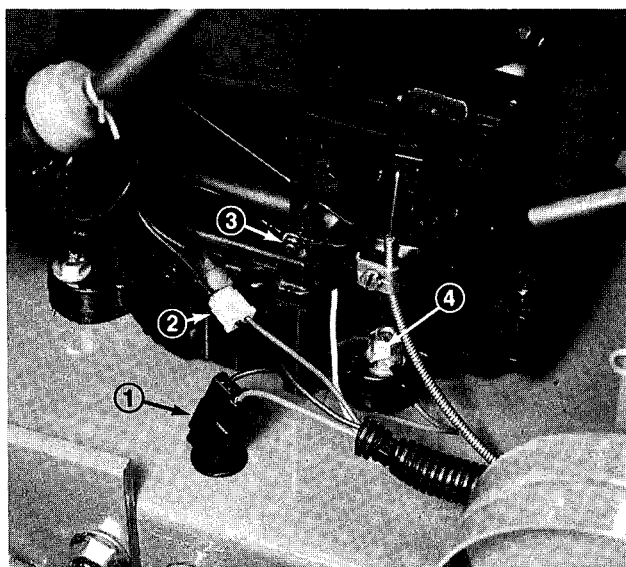

Figure 6
1. Secure clutch and engine in-line connectors (Fig. 6).
2. Remove small hex nut from governor plate terminal, mount small wire from wire harness and reinstall nut (Fig. 6).
3. Mount remaining (2) wires to engine mounting bolt with locknut supplied in loose parts.